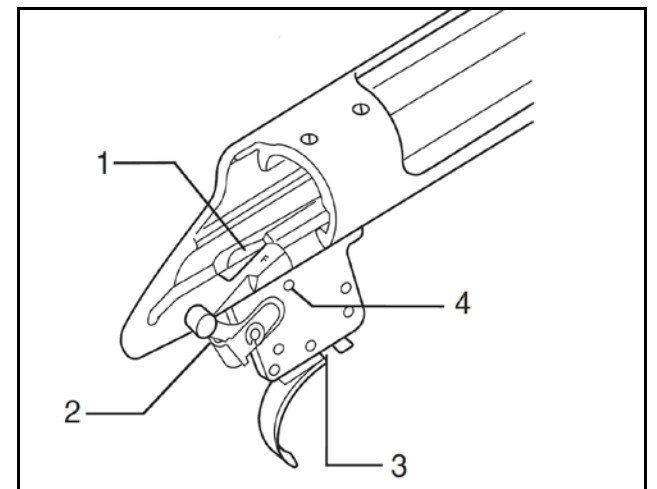

Figure 20 – Lubrication Points
2. Spray the Receiver Trigger Assembly at the lubrication points specified in Figure 20 with Rem Action Cleaner and allow it to dry.
4. Pull and hold the Trigger rearward. While holding the Trigger, use a small screwdriver to depress and release the Receiver Sear multiple times (lubrication point 1 in Figure 20).
8. Place a drop of Remington “Rem Oil” at each of the four lubrication points in Figure 20.